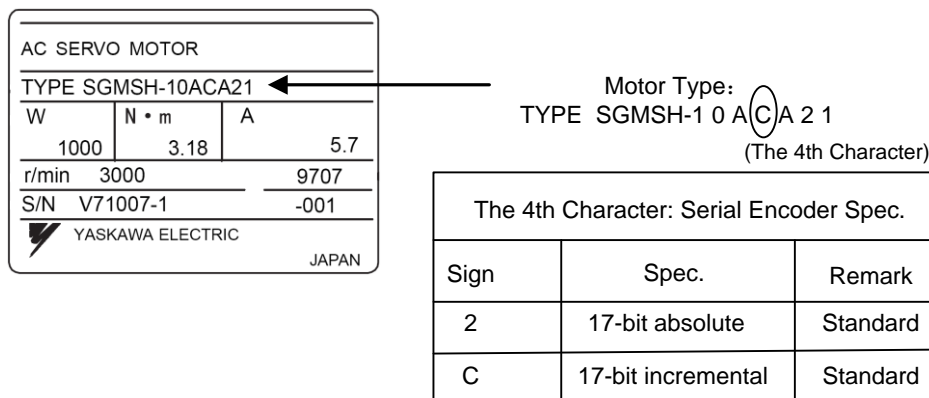

Fig. 3-3 Servo Motor Brand-encoder Resolution
Encoder Resolution (F): needed pulse number for one circle of servo motor. Please see the servo motor label plate and then refer to the corresponding manual to confirm its encoder resolution. A label plate of YASKAWA SGMSH type motor is as shown in Fig. 3-3, and the 4th character in motor type is the serial encoder specification, so the resolution of this motor is 2¹⁷, i.e. 131072.